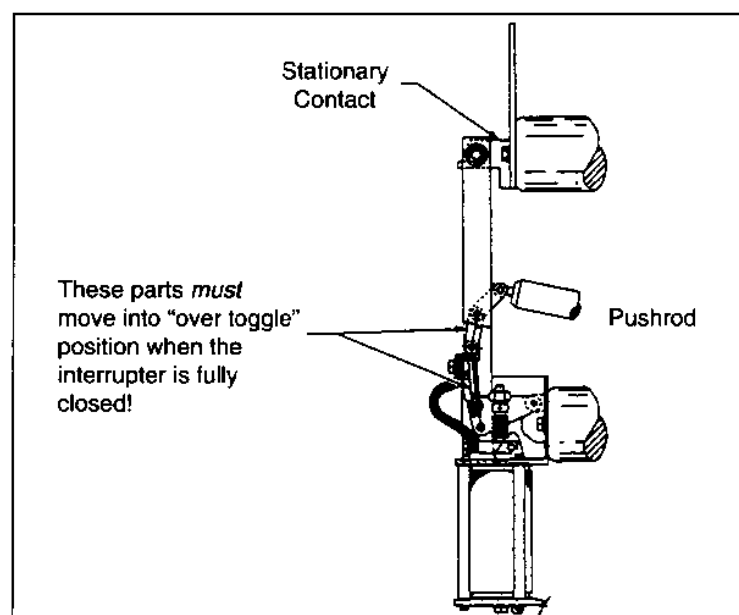
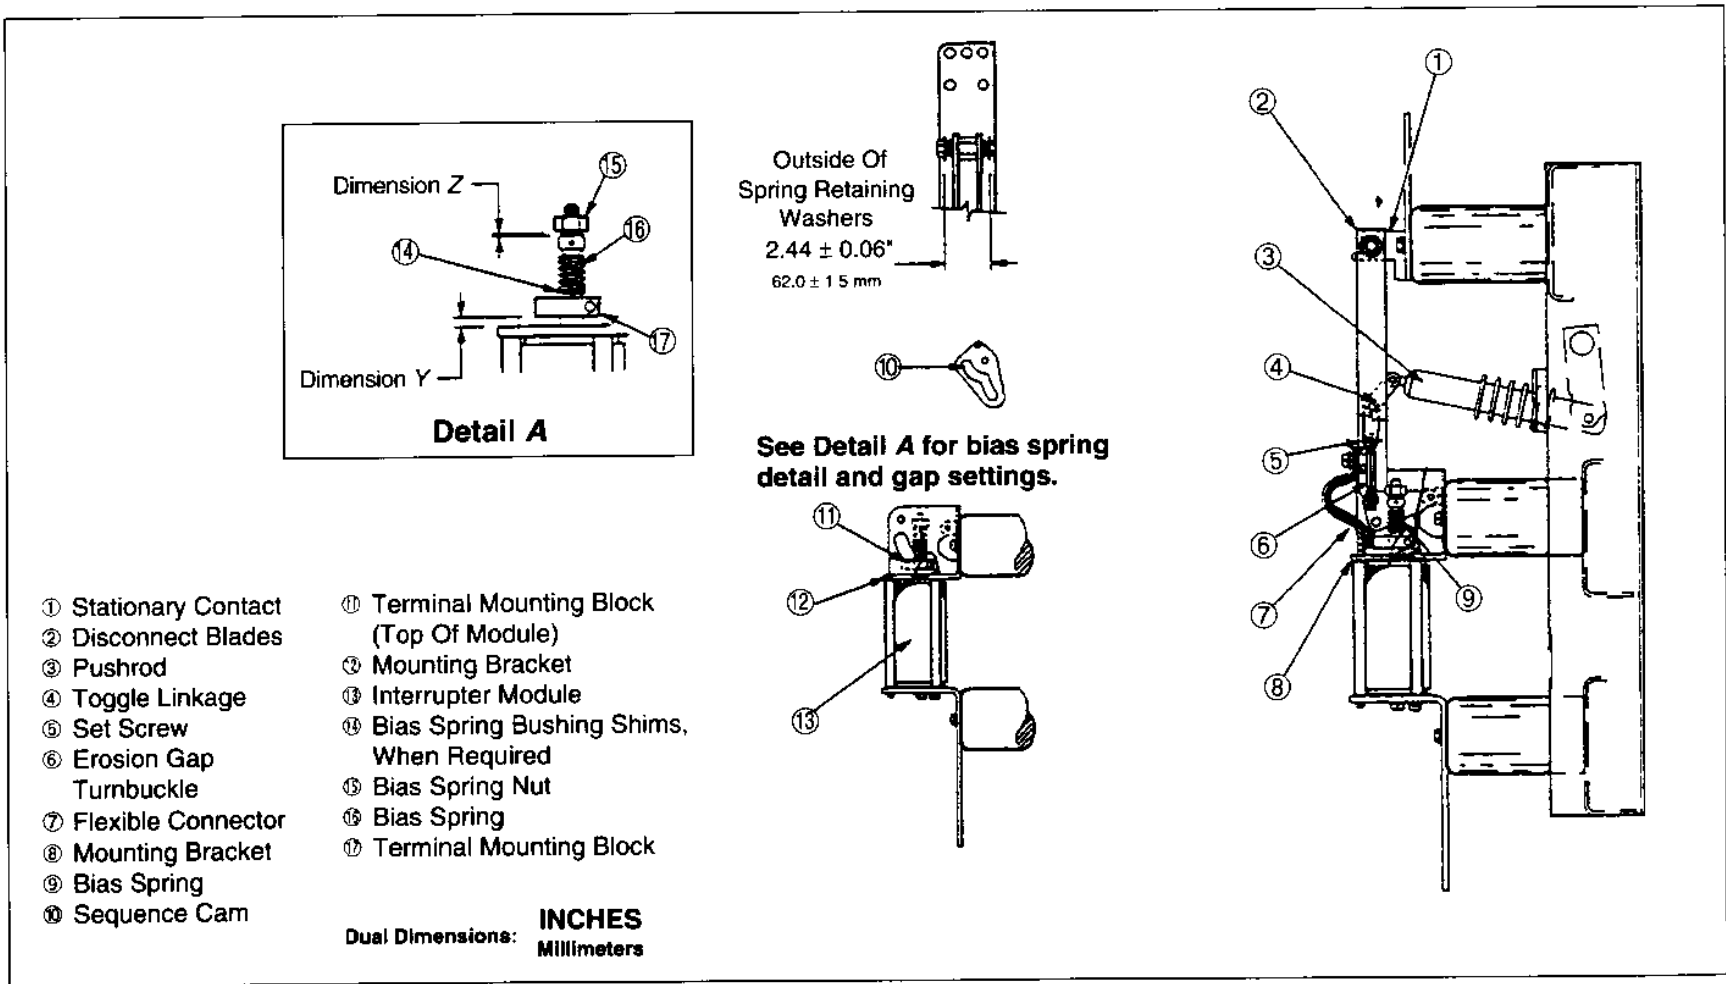

Figure 10: Pole mechanism, closed position
Figure 11: Interrupter module adjustments
Vacuum Interrupter Module Contact Erosion Measurement—The circuit interrupter must be closed and the pole mechanism in the “over toggle” position (figure 10). To determine the amount of vacuum interrupter module contact erosion, accurately measure dimension Y (figure 11, page 18) on the pole assembly, as follows:
1. Measure at the right side, inboard corner of the terminal mounting block through the opening in the right side of the mounting bracket (figure 11).
Dimension Z (figure 11) also indicates the contact erosion present, but does not indicate the cumulative value if the gap has been re-adjusted since the device was manufactured.
- Measure dimension Y (figure 11) with the circuit interrupter in both the *closed* and *open* positions.
2. Adjust the clamping force on the stationary contact jaw by adjusting the distance between the outside surfaces of the spring retaining washers to 2.44" ± 0.06" (62 mm ± 1.5 mm), as shown in figure 11, page 18.
3. Open the interrupter pole unit by pushing on the pushrod (figure 11). *Do not pull directly on the blades.*
4. Use the bias spring nut (figure 11) to adjust the length of the interrupter bias spring (figure 11, Detail A). Tighten the spring length to 1.10" max. (28 mm) on a device rated 12.5 kA.
5. Close the interrupter pole assembly unit by pulling on the pushrod (figure 11). Ensure that the toggle linkage (figure 11) and erosion gap turnbuckle (figure 11) go "over toggle" as shown in figure 10, page 17.
7. Adjust the erosion gap turnbuckle so dimension Z is 0.08" (2 mm) for a device for a device rated 12.5 kA. Adjust the turnbuckle with the switch open; it may be necessary to close and open the interrupter pole unit several times to complete the adjustment. Lock the erosion gap turnbuckle with the set screw (figure 11, page 18). Apply Locktite 262 red (or equivalent) to set the screw threads.